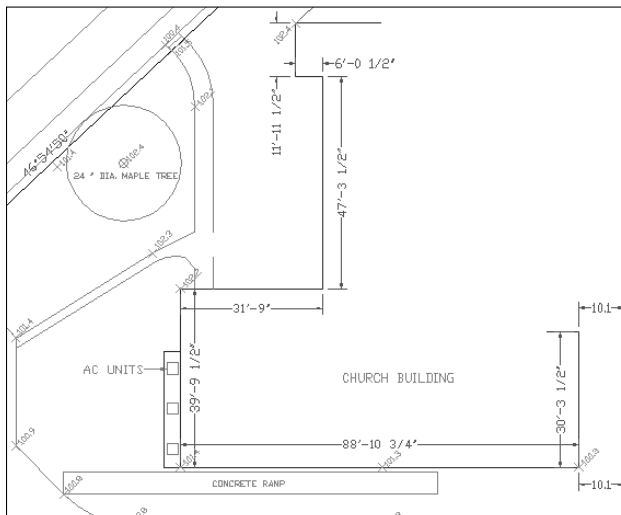

**Figure 10-28:** The edited site plan.
7. Start the JOIN command. At the Select source object: prompt, select the line at ⑧. At the Select lines to join to source: prompt, select the line at ⑨. Press Enter to end selection and join the lines into one.
8. Save your drawing. It should look like Figure 10-28.